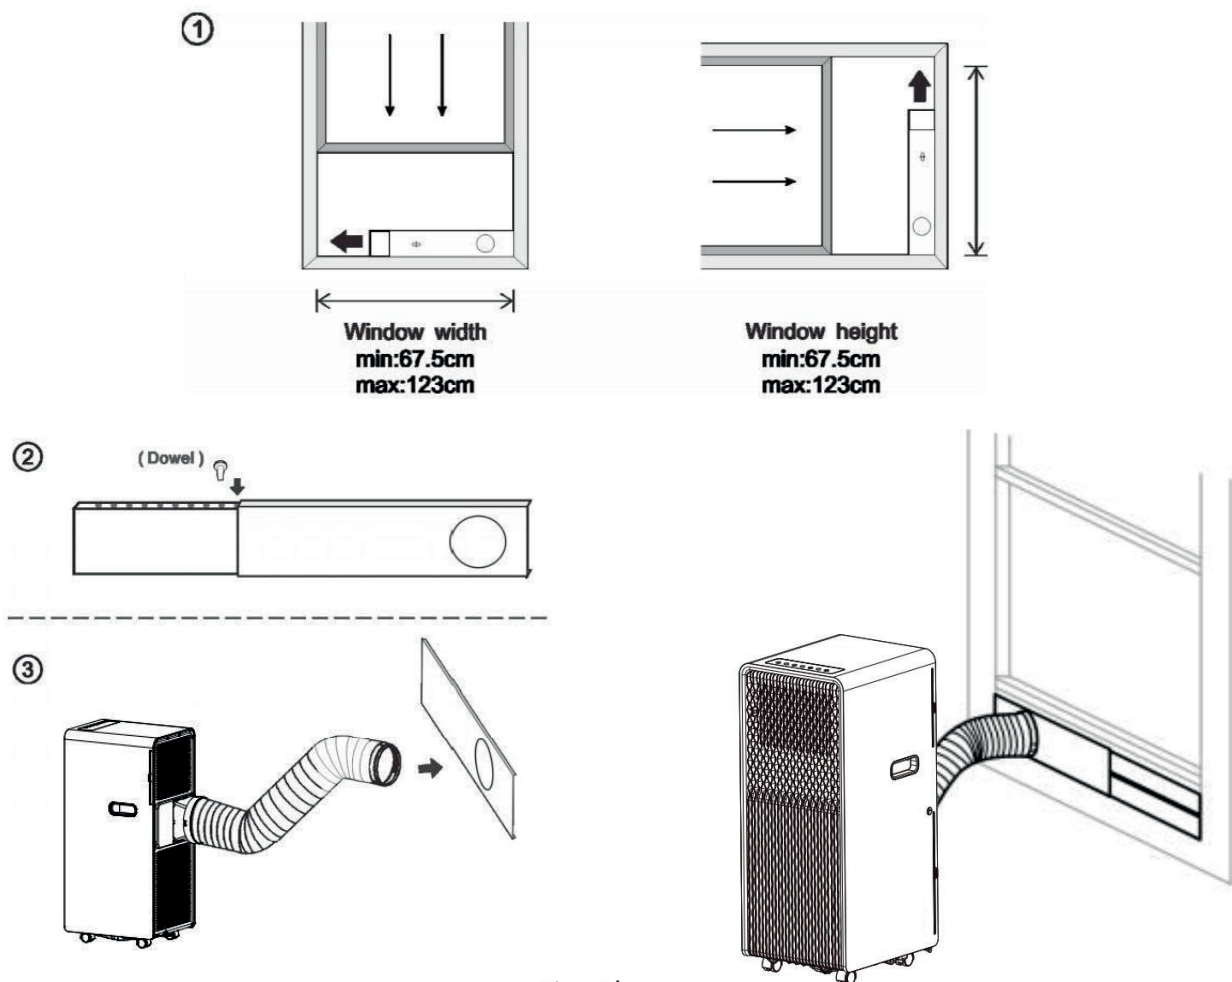

Fig. 5b
3. Insert the window connector of the hose to the hole of the window kit (Fig. 5b).